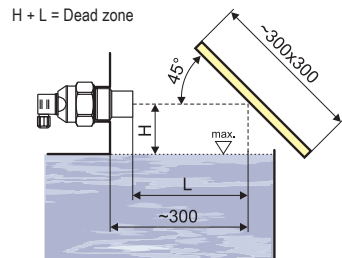

Fig. 10: Reflection board
- o) To lower the minimum distance to the medium measured, a **reflection board** made from solid, even and smooth material can be installed together with the level meter (Fig. 10). Subsequently, the tank can be filled nearly up to the maximum volume. The solution is suitable for open tanks and reservoirs.